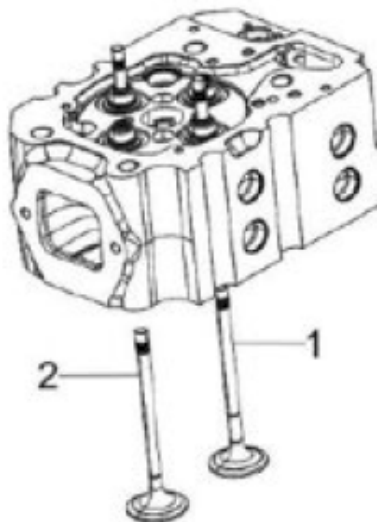

Figure 62. Valve Assembly
4. Place all the valves (Figure 62, Items 1 & 2) in their proper location in the cylinder head.
5. Place the cylinder head on the workbench with the combustion side down to install the valve springs. Install the valve springs (Figure 62, Items 3 & 4) and the spring retainers (Figure 62, Item 2).